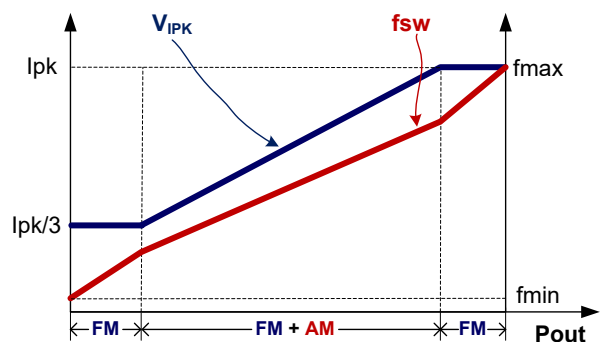

Fig.1
To meet the tight requirement of averaged system efficiency and no load power consumption, a hybrid of frequency modulation (FM) and amplitude modulation (AM) is adopted in FC321XB which is shown in the Fig 1.